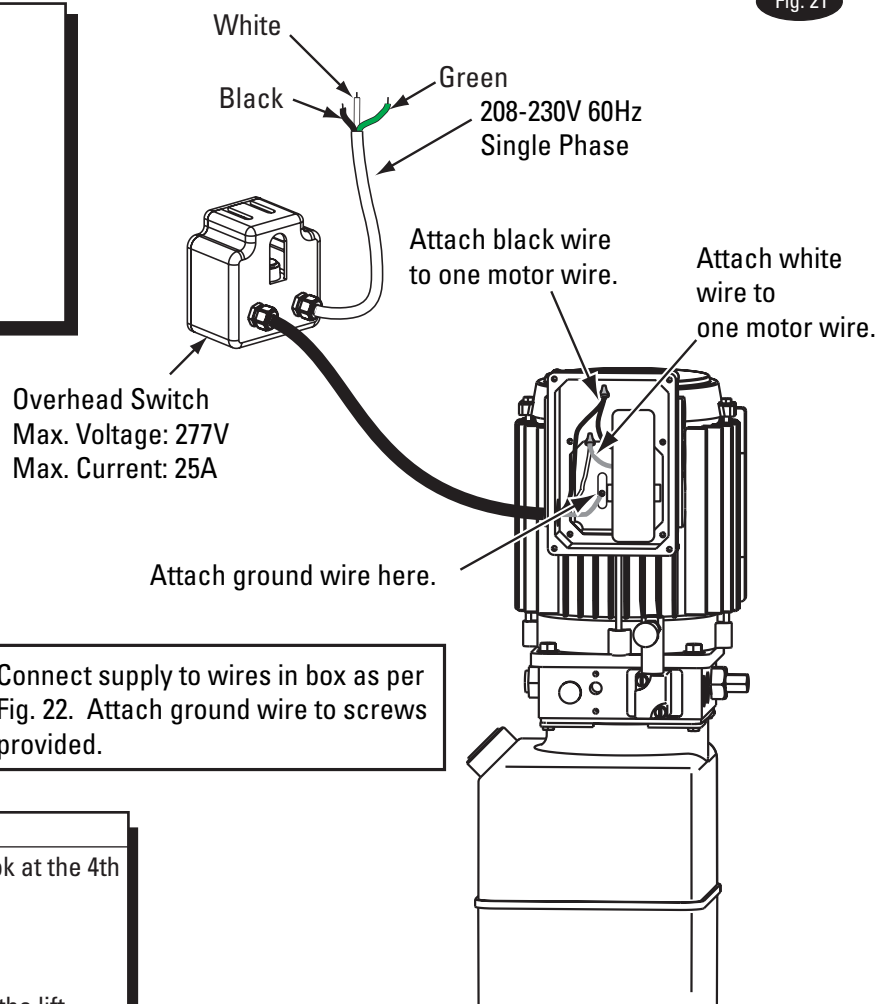

Fig. 21
13. Electrical: Have a certified electrician run appropriate power supply to motor, Fig. 21 & 22. Size wire for 20 amp circuit. See Motor Operating Data Table.
15. Overhead switch: Check overhead switch assembly to assure that switch bar is depressing switch plunger sufficiently to actuate the switch. The overhead switch is wired normally open, see Fig. 21 & Fig. 22. Lift will not operate until weight of switch bar is depressing switch plunger. Verify that Power Unit stops working when switch bar is raised, and re-starts when the bar is released.